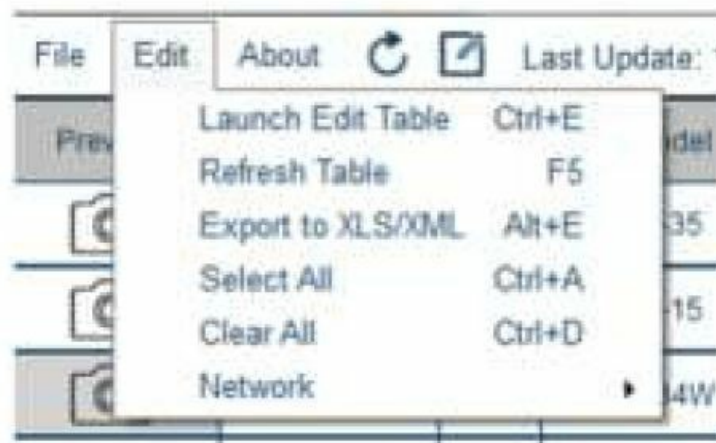

Figure 3-5 Launch Edit Table
4. Close the Login Manager and select “Launch Edit Table” under the “Edit” menu dropdown or with Ctrl+E as seen in figure 3-5.